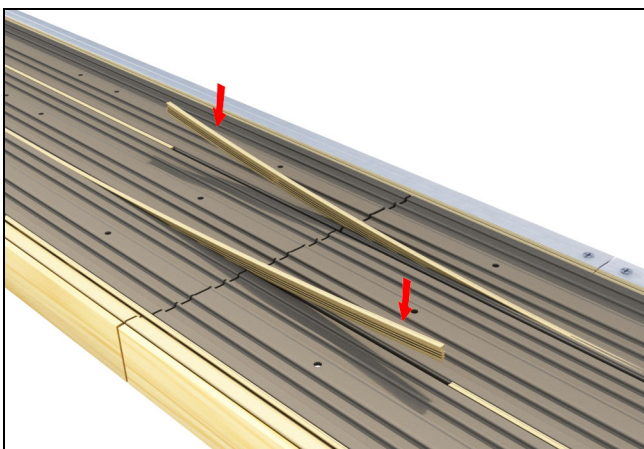

Figure 24
6. Press supplied frame wedge into head jamb frame assembly kerf and cut to length. Tapping gently with a soft mallet. See figure 24.